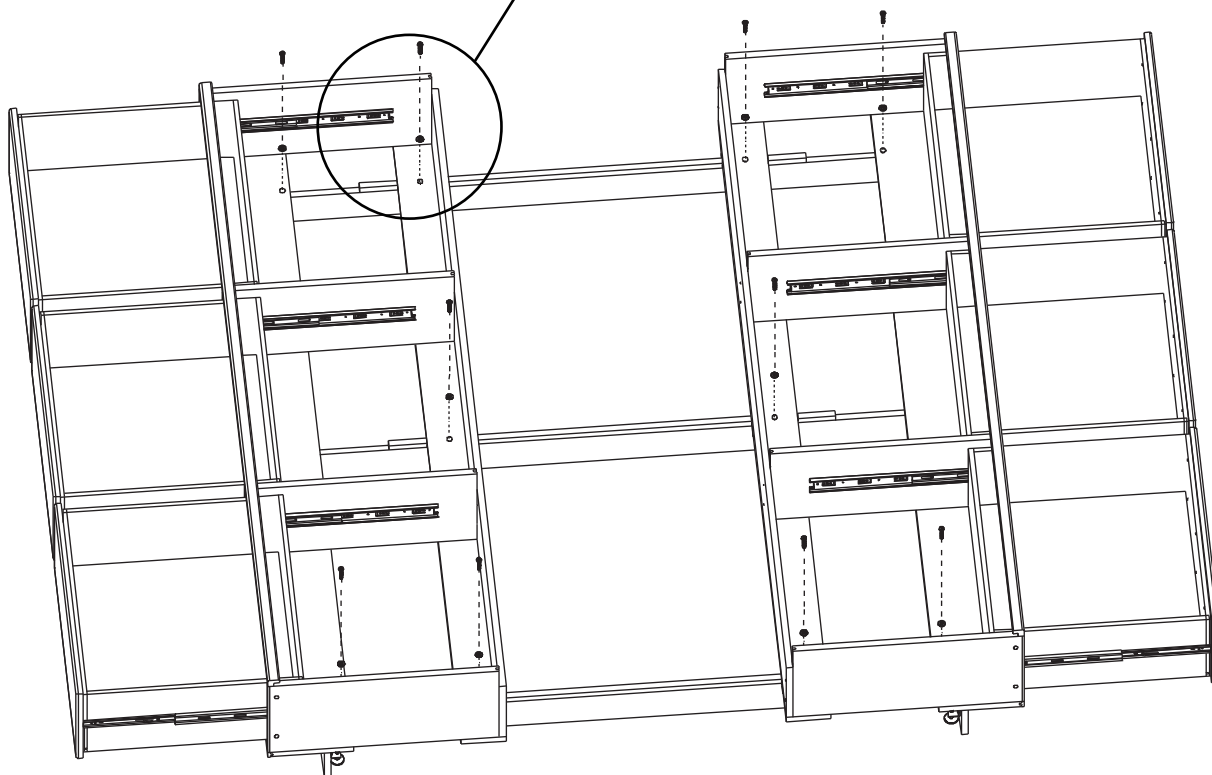

Fig. 4
4. Open the drawers and attach the pedestal to the base using Hex Bolts (ZF) and Washers (ZD) only finger tight. See Figures 4 and 4a.